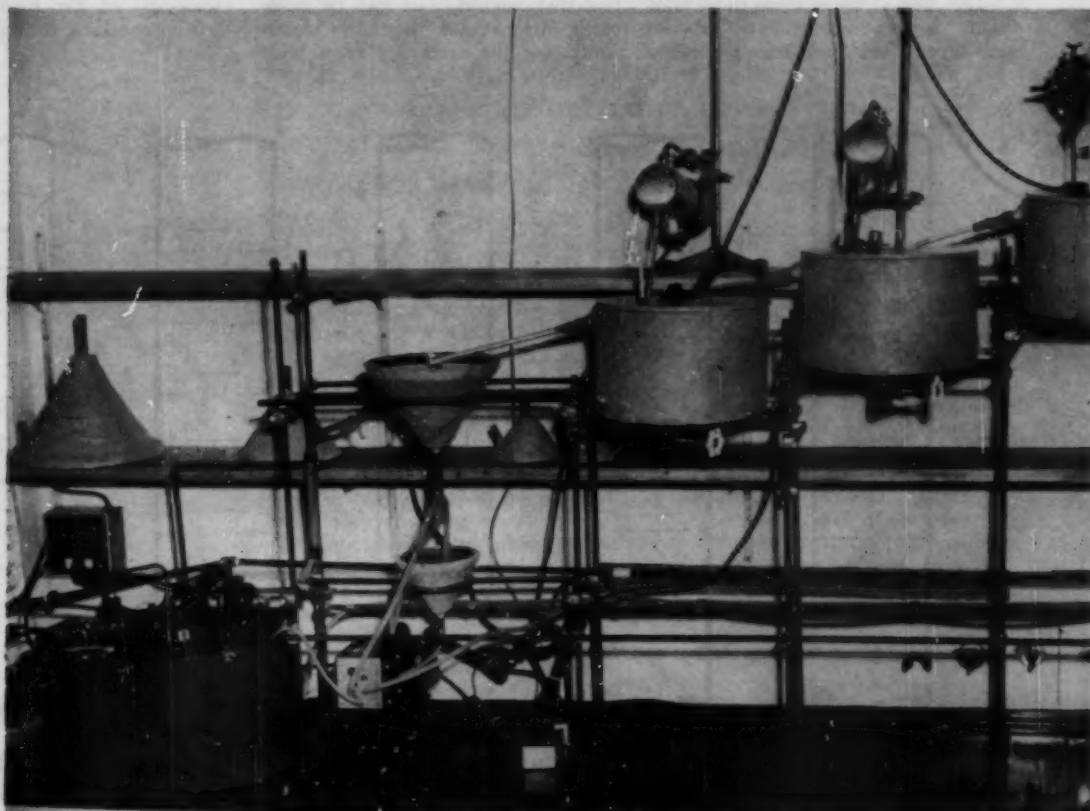

Figure 1. Multiple agitated tank crystallizer used as first bench-scale equipment to test process methods in the study.
**Crystallization pilot plant.** Figure 1 shows a bench-scale pilot plant for the production of a heavy inorganic chemical by a low-temperature crystallization process. The flowsheet, as outlined by laboratory investigations and preliminary engineering studies, involved several difficult processing steps, but much of the operation was similar to existing processing methods. Since time (and, as always, expense) was important, it was decided that only the minimum pilot planting would be done. This meant that bench-scale studies would be made of the difficult portions of the process and large pilot plant equipment would be operated only if necessary on the basis of the bench-scale work.
The first bench-scale equipment to test the process and compare these alternative methods employed the multiple-agitated tank crystallizer shown in Figure 1. Classification cones, feed and product tanks, pumps, and cooling equipment completed the crystallization section of the process. Level control was accomplished by means of overflow pipes, and temperatures were controlled by (off-on) thermostats operating small centrifugal pumps circulating a low temperature cooling brine. Process flows were regulated by variable speed Sigma (finger) pumps. Screen and